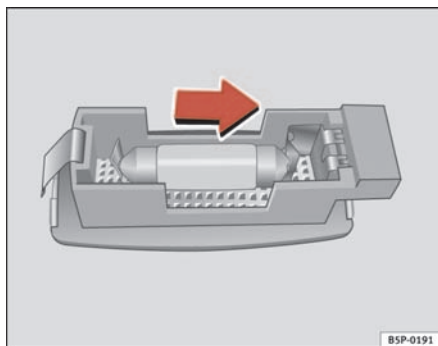

Fig. 200 Removing sunroof light
- Carefully remove the lamp, using the flat side of the screwdriver, as shown in the figure ⇒ fig. 200.
- Remove the lamp, moving it in the direction of the arrow and outwards ⇒ fig. 200. ■